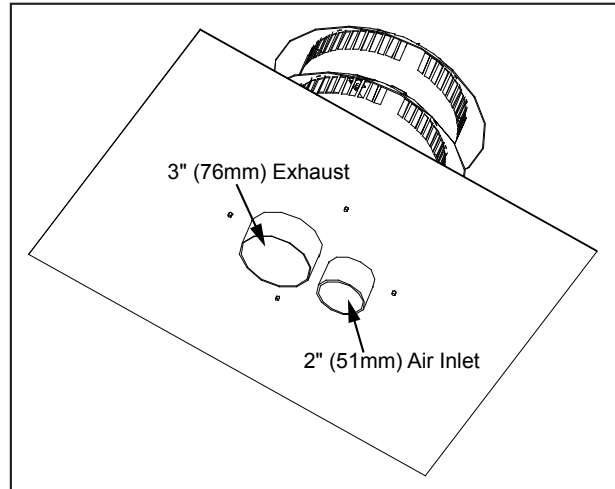

Figure 42: Vertical Vent Cap Underside.
- Place a bead of high temperature silicone on the intake collar of the fireplace, slide the Ø2" (51mm) flex intake liner over the collar, secure the flex liner with three (3) sheet metal screws evenly spaced.
- At the top of the chimney, apply a bead of Mill-Pac Black sealant to the Ø3" (76mm) pipe of the vent terminal (refer to Figure 42). Slide the flex liner onto the vent terminal and secure with three (3) sheet metal screws evenly spaced.
- Place a bead of high temperature silicone on the intake collar of the vent terminal (refer to Figure 42). Slide the Ø2" (51mm) flex intake liner over the collar, secure the flex liner with three (3) sheet metal screws evenly spaced.